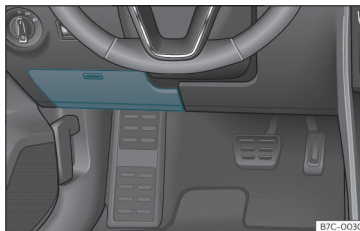

Fig. 88 Vehicles with the steering wheel on the left: fuse box cover under the driver-side dash panel
- *Open*: fold the cover down >>> **Fig. 88**.